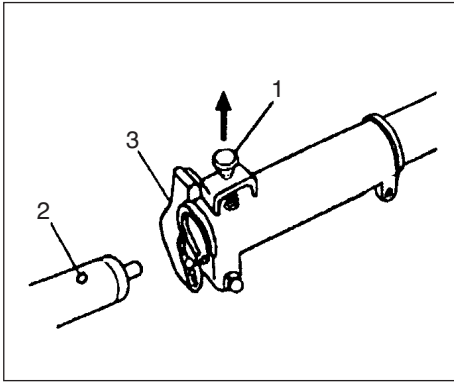

Fig. 1-1
2. Make sure the lock pin (1) fits in the location hole (2) of tube and that the tube will not come off. (Fig. 1-1)
3. Tighten the knob nut (3) securely. (Fig. 1-1)